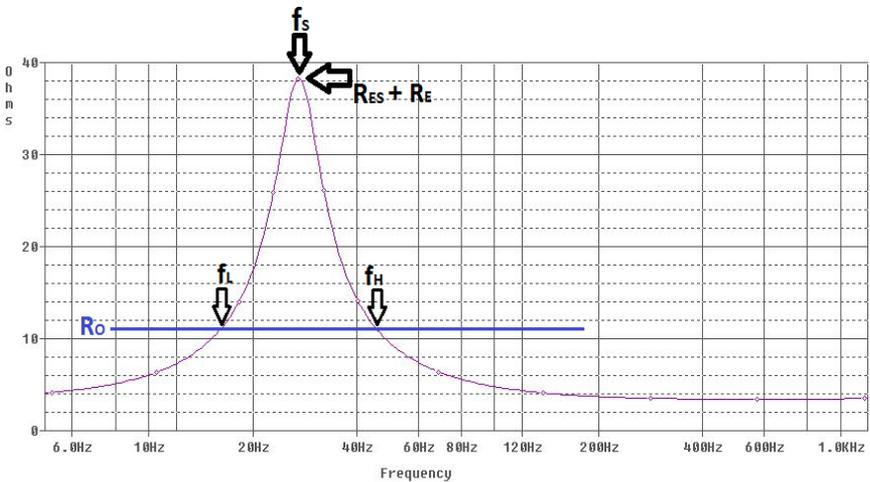

Figure 8, finding f_L and f_H
5. Adjust the frequency on the IM-SG+ to the low end of the f_s range in the chart on the next page. Then slowly raise the frequency until the peak in impedance is found. If you go too far and pass the peak, just back down the frequency until the peak in impedance is found. Figure 8 shows the impedance curve for a 12 inch woofer we tested. We measured the f_s to be 27.1Hz.
R_o represents an impedance that we are going to try to find with the IM-SG+. This impedance will happen twice, once at a frequency lower than the f_s and once at a frequency higher than the f_s . We are going to call these f_L and f_H respectively. See figure 8 for a graphical representation. Plugging in our numbers from our test woofer we get:
10. Slowly sweep the frequency down to find f_L . It will be lower in frequency than f_s was and will occur at R_o ohms. See figure 8. Record the frequency you found as f_L . We measured f_L to be 15.3 Hz on our 12 inch woofer.
11. Now slowly sweep the frequency up, higher than the f_s frequency. We are looking for the frequency that is at R_o ohms on the other side of the peak now. We call this frequency f_H . Record the frequency you found as f_H . We measured f_H to be 43.6 Hz on our 12 inch woofer. Refer to figure 8.